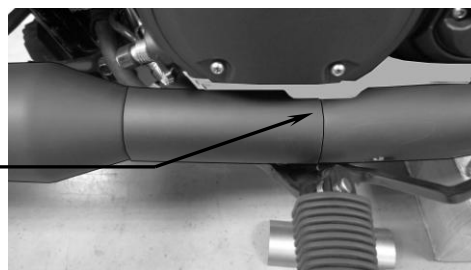

FIGURE 1
3. Remove (3), M10 socket head bolts retaining stock cast bracket. Remove bracket and discard.
7. Align muffler mount with steel frame bracket, and install (2) M10 buttonhead bolts previously removed in Step 1. Make sure muffler is centered and square against frame bracket and fully tighten the M10 bolts. Tighten muffler clamp securely on muffler slip. Reconnect oxygen sensor connectors.
8. Place heatshield on headpipe / muffler using supplied clamp. Note: heatshield must have the small notch facing upward and flush with the stock heatshield,. Butt new heatshield up to stock heatshield, see Figure 1. Tighten heatshield clamp.